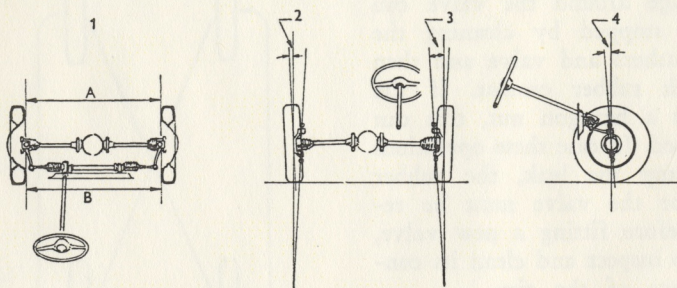

Fig. 27. Front wheel alignment
* Since this car has ball joint suspension of the wheels, the term king pin refers to an imaginary line through the centers of the ball joints. See fig. 27.